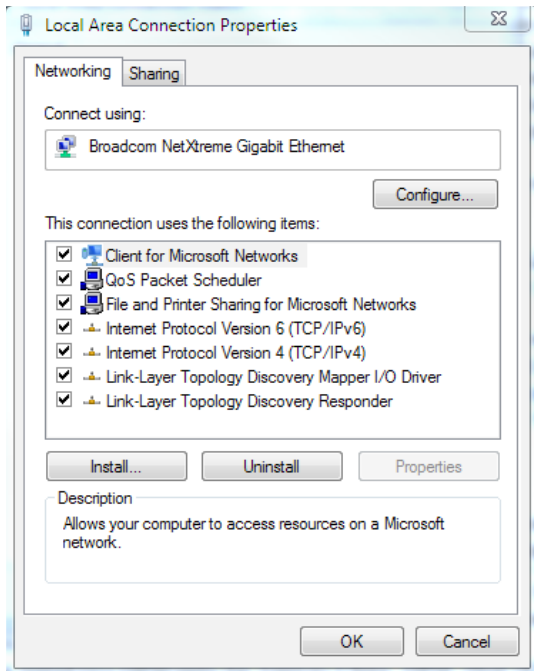

Fig. 2-38, Local Area Connection Properties Screen, Windows 7
6. You will see a dialog box much like Fig. 2-38; click **Internet Protocol (TCP/IPv4)** and then click the **Properties** button.